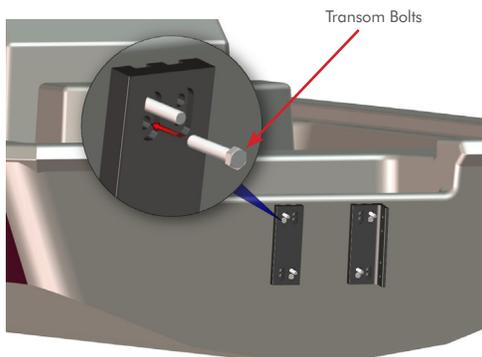

Figure 5
STEP 5: Install the M to S adapter plate (C) and shim (B) onto the boat transom/jack plate and tighten to your boat manufacturer's torque specifications (FIG. 5 or 6).